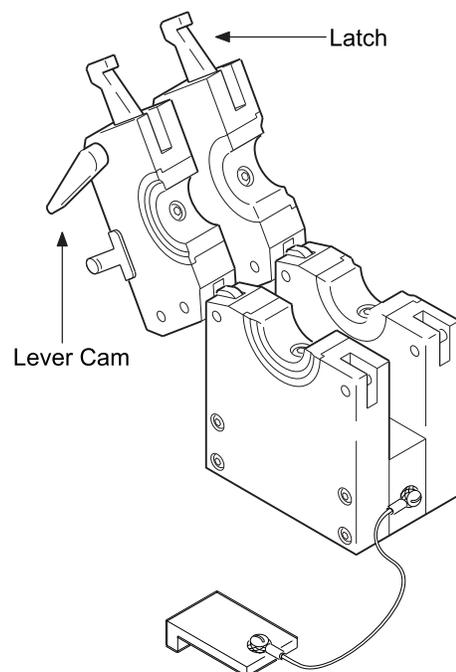

Figure 23 Lever Cam and Latch
6. Check the lever cam and latch for smooth operation. See Figure 23.